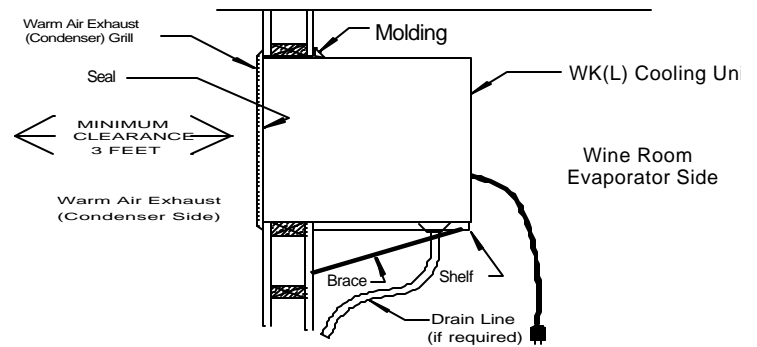

Figure 3
- ☞ This is a mechanical piece of equipment, it will make noise and produce heat on the warm side exterior condenser grille (Fig. 3). Remember, unit installation location is not only important inside the wine cellar, but just as important is where the warm side exhaust air is being rejected.
Improper placement or installation may cause the unit's performance to be degraded. **The warm air exhaust side (Condenser Side) of the unit must have a constant supply of fresh air, less than 85°F.** If the unit is exhausted into a confined area with poor ventilation or duct work, it will not be able to reject the heat and moisture it is removing from the enclosure and a malfunctioning unit will be suspected. If an obstruction to the flow of fresh air into or from the cooling unit (see Fig. 3) is stopped or restricted for any reason the unit could heat rather than cool the enclosure.